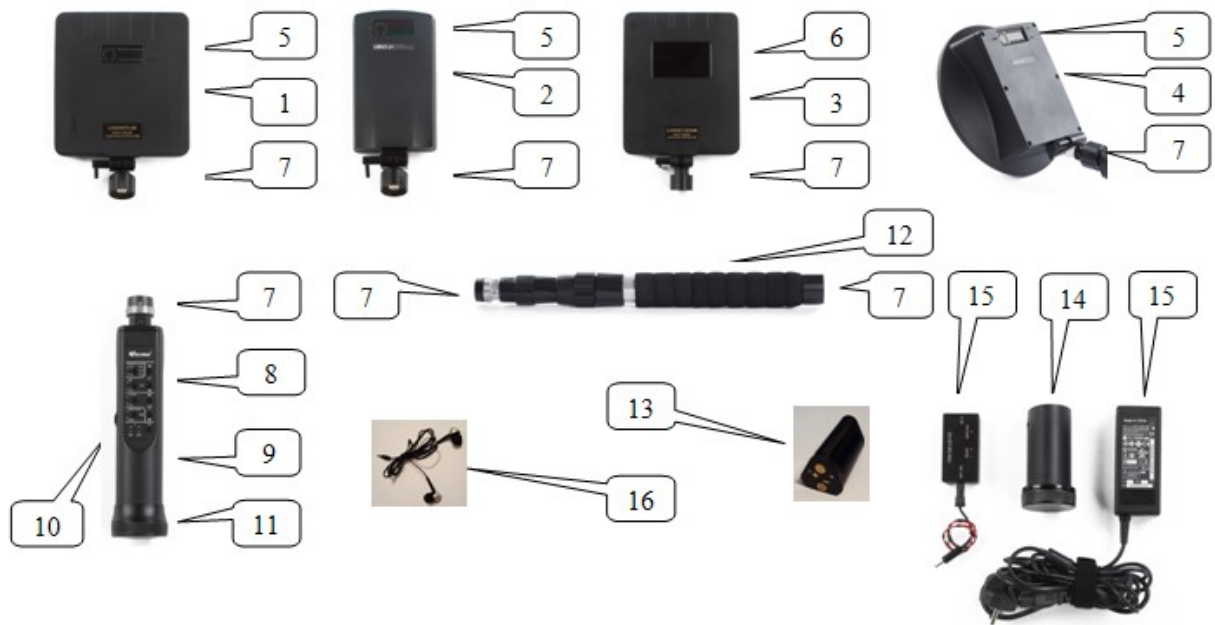

Figure 1, where:
3.3. The appearance of the detector components is shown in Figure 1
LI-ION battery (12V) (see Figure 1) in black color is designed to operate only with the standard charger supplied with the LORNET STAR detector.
**NEVER** use the LI-ION battery (12V) (see Figure 1) in black color instead of LI-ION batteries (3.7V) in blue color, which are used in the detectors Lornet, Lornet 24, Lornet 36, Lornet 0836.